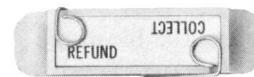
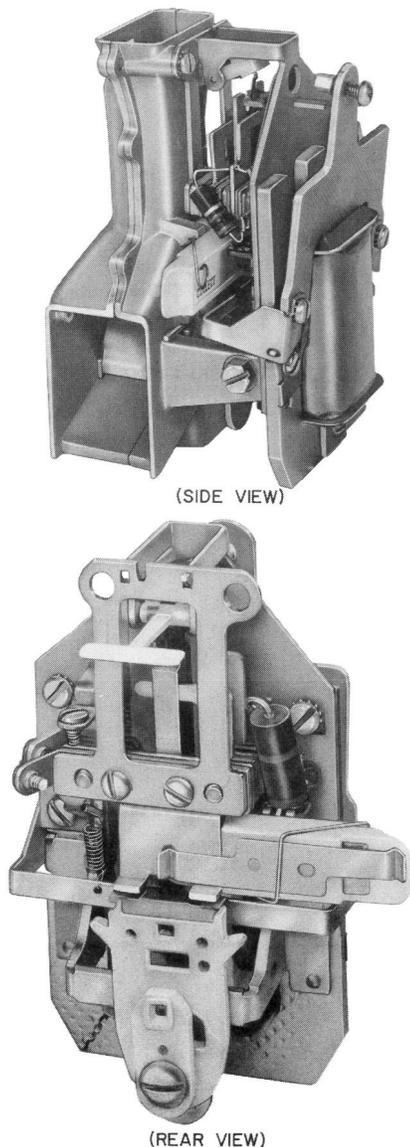

Fig. 12 — 146B Bias Margin Gauge
Fig. 13 — 146B Bias Margin Gauge in Position for Collect Test
- (1) Call test desk and request a bias margin test of the coin relay (use central office test circuit where available).
- (2) Slip 146B bias margin gauge (Fig. 12) over left pole piece extension arm from left side of coin relay (Fig. 13).
- (3) Request test desk to perform operation (collect or refund) appearing in lower left corner of gauge.
- (4) After checking for the correct relay operation, reverse gauge by turning it around on the same pole piece extension arm and request operation appearing in the lower left corner of gauge.
- (5) Check for correct relay operation. Replace relay if either test fails.